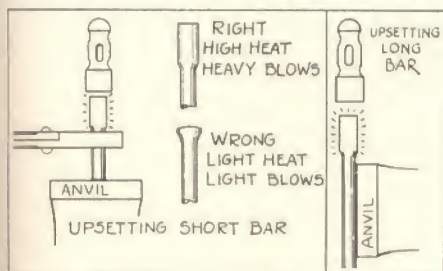

Fig. 46—LEFT: Upsetting a short bar. RIGHT: Upsetting a long bar.
**Upsetting**, or making the piece shorter and thicker, is necessary to gain additional stock in welding, or at the end of a brace where a hole or eye is to be made. As shown in Fig. 46, one should give the iron a high heat and strike a heavy blow directly against the end, or jam the heated end against the side of the anvil. Light blows should not be used and the piece should be heated as far back as the upsetting is desired. Keep in mind that it is difficult to add to the size if one gets it too small, but a little extra stock can be removed with the file or the emery wheel.